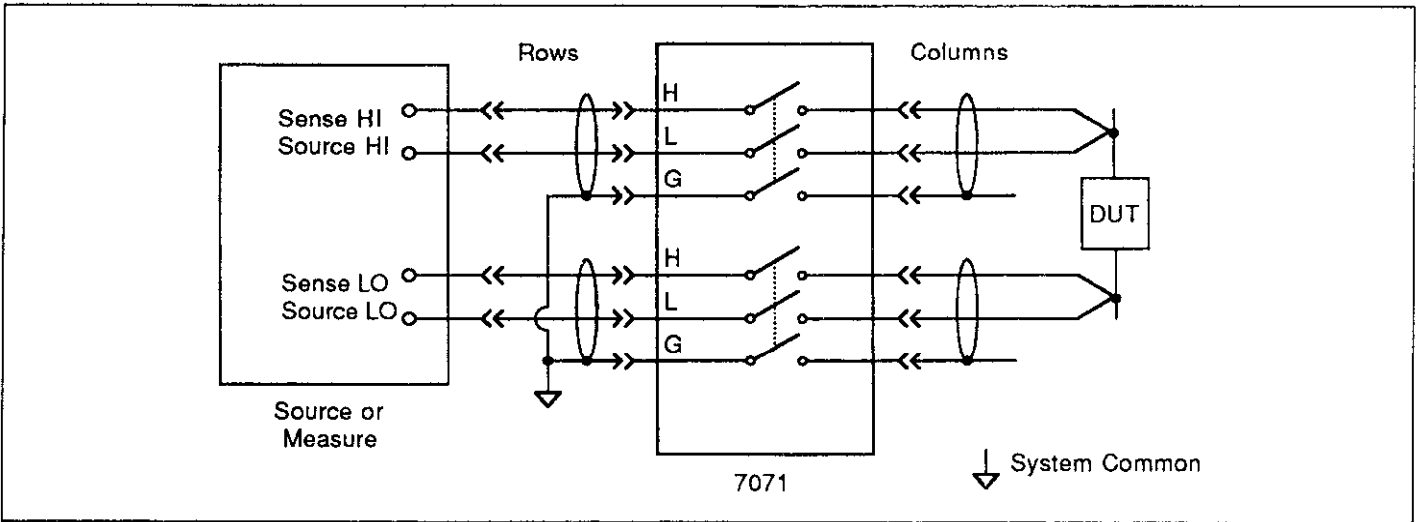

Figure 2-7. Sensing Example (Shielded)
Figure 2-7 shows how the matrix card can be configured to use instruments that have sensing capability. The main advantage of using sensing is to cancel the effects of matrix card path resistance ( $<1.5\Omega$ ) and the resistance of external cabling. Whenever path resistance is a consideration, sensing should be used. In the illustration, matrix card guard is again used as a shield. In a system where a driven guard is required, matrix card guard (G) can be disconnected from circuit LO and connected to the guard potential. However, make sure that the guard is adequately insulated to prevent possible electrical shock, or use quadrx cables using the outer shield as a grounded safety shield.